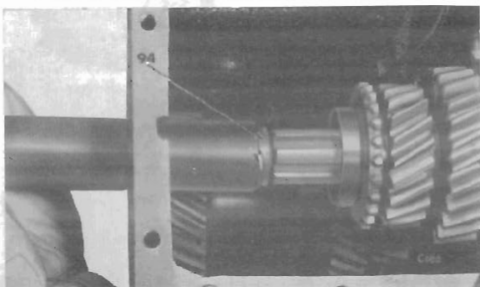

Fig. 41. Using Churchill tool S.145 to install the mainshaft circlip
1. Second gear synchro unit assembly with gear portion forward (make sure that the interlock plug (82) and ball (83) are correctly located in this unit).
3. Rear thrust washer (88) with its scrolled face forward.
4. Second speed gear (89) and bush (91).
5. Centre thrust washer (90).
6. Third speed gear (92) and bush (91).
7. Front thrust washer (93) with its scrolled face rearward.
Utilising a special tool as shown on Fig. 41 install the circlip (94). Placing the longer boss of the inner synchro member forwards, slide the "top and third" synchro unit with baulk rings attached over the mainshaft and complete the installation by driving the rear ball race into its housing.